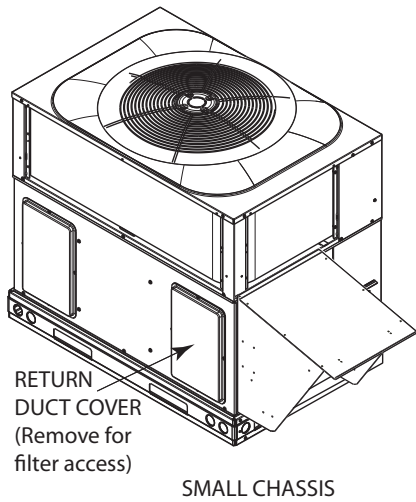

Fig. 3 – Small Chassis Filter Access
1. Remove the filter access panel (See Fig. 3) using a 5/16-in. nut driver.
Small Chassis (See Fig. 3)